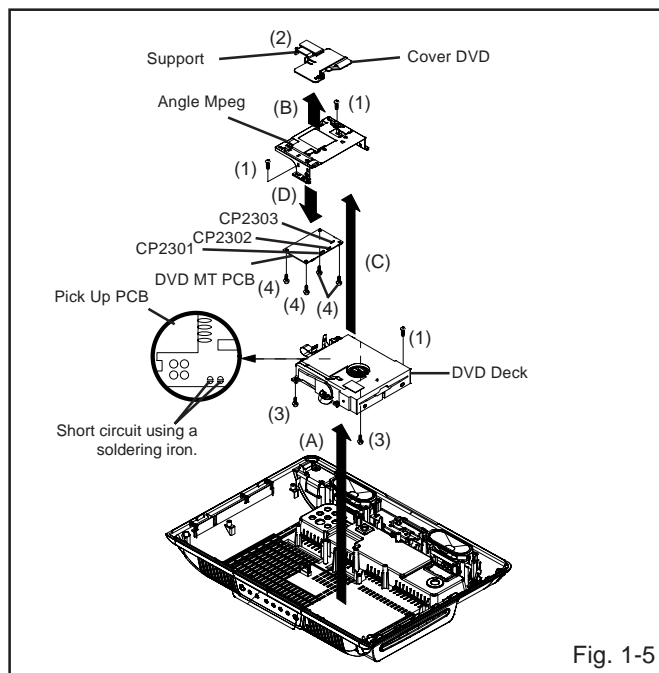

Fig. 1-5
1-5: DVD DECK (Refer to Fig. 1-5)
1. Short circuit the position shown in **Fig. 1-5** using a soldering iron. If you remove the DVD Deck with no soldering, the Laser may be damaged.
2. Remove the 3 screws (1).
3. Remove the DVD Deck in the direction of arrow (A).